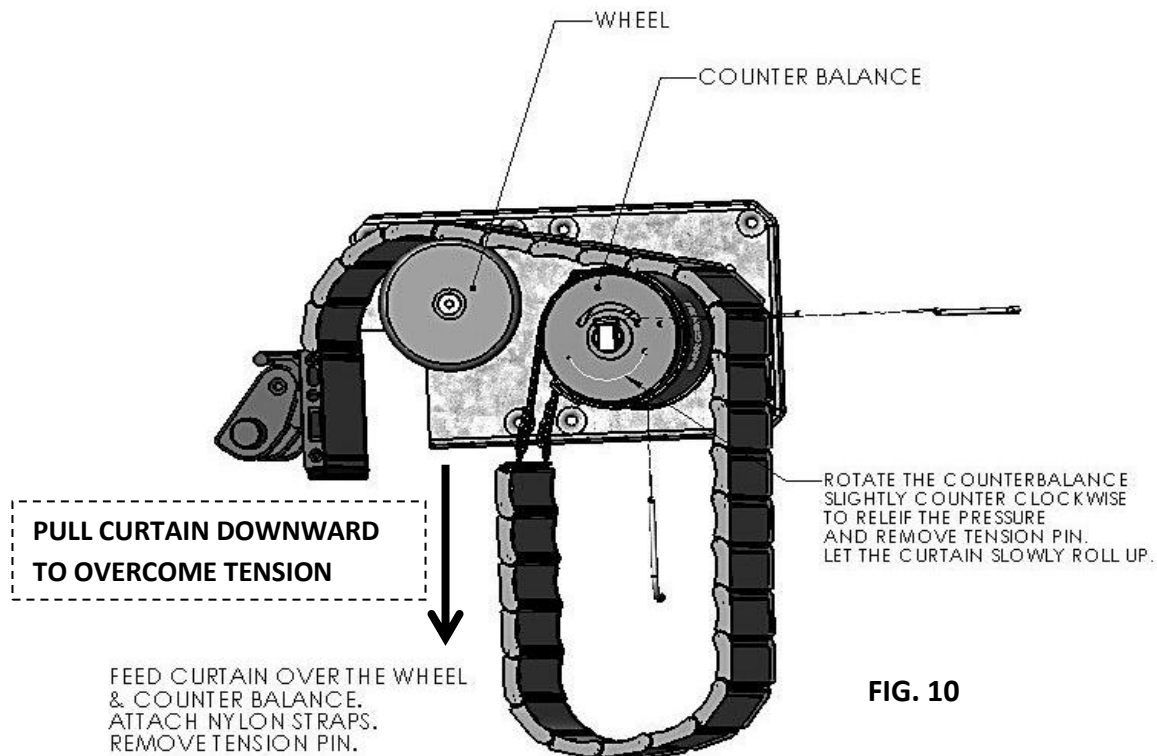

FIG. 10
2. **If the compartment is too small to enter**, roll-up the curtain to the open position then reach in the compartment and unwind the curtain from the counter balance and let the door sag into the compartment (See FIG. 10, pg.8). **Be careful not to let the curtain roll back up, the CB is under tension.** After the curtain is unrolled into a sagging position: